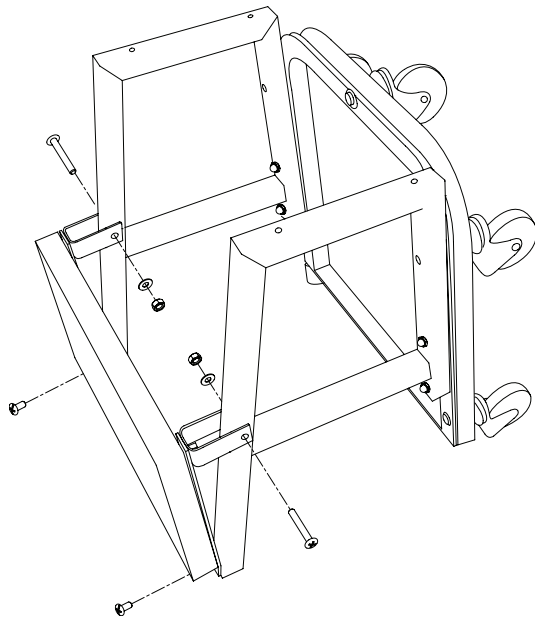

Figure 3 - Attaching Creeper Seat
3. Attach creeper seat to creeper side frames using two M6 x 40 Phillips head screws, with washers, and nuts, and two M6 x 14 Phillips head screws as in Figure 3.